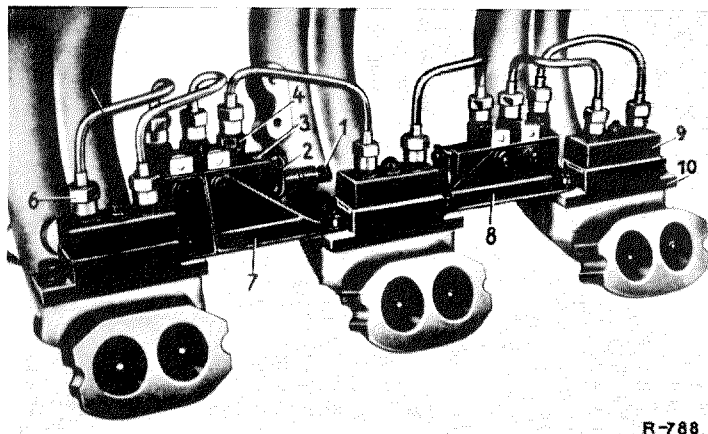

Fig. 01-4/12 c
If a distribution group requires replacement, the rejected distribution group can now be completely replaced under part No. 000 078 01 95/80 (Bosch designation EPVT 1 P 12 Z injection valves with screen filter) or under part No. 000 078 00 95/80 (Bosch designation EPVT 1 P 11 Z injection valves with rod-type filter) (Fig. 01-4/12 a), that is, upon returning of a disassembled, complete, correlated distribution group you will receive an overhauled distribution group, in which the 3 injection valves (Fig. 01-4/12 b) have been given new valve inserts (4), the injection valve pipes have been provided with connecting sockets (2), and the respective fuel distributor fitting has been cleaned, and the reconditioned distribution group has been tested for uniform distribution of the fuel.
If no replacement distribution group is available, any Bosch service will replace the valve inserts (4) of the rejected distribution group or the injection valves (Fig. 01-4/12 b), while using the disassembled injection valve pipes and connecting sockets again, and will then re-install the assembly with the respective fuel distributor fitting.
Prior to installing the holders for the injection valves check whether the surface of the holder (10) and the surface on the intake pipe are undamaged. These surfaces must be perfectly level, because otherwise leaks may occur. Be sure to replace the seal between the holder (10) and the intake pipe and to use Teroson sealing compound for installation. When mounting the flange (9), which holds the injection valves in the holder (10), the hexagon nut which holds the flange (9) and the holder (10) may not be tightened more than 1.5 mkg (Fig. 01-4/12 c).